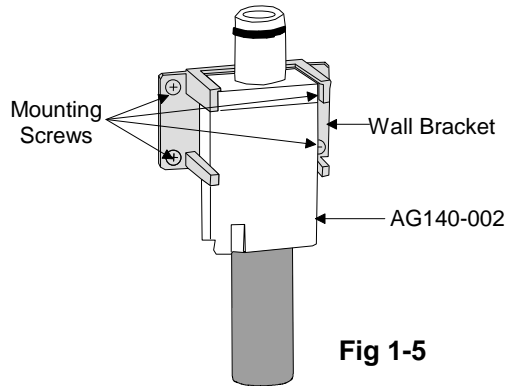

Fig 1-5
4. Mount Wall Bracket (dimensions 3.0"x1.7"x1.5") on vertical wall or to back of outlet boxes using provided screws. Apply AG140-002, as shown.(see Fig. 1-5)